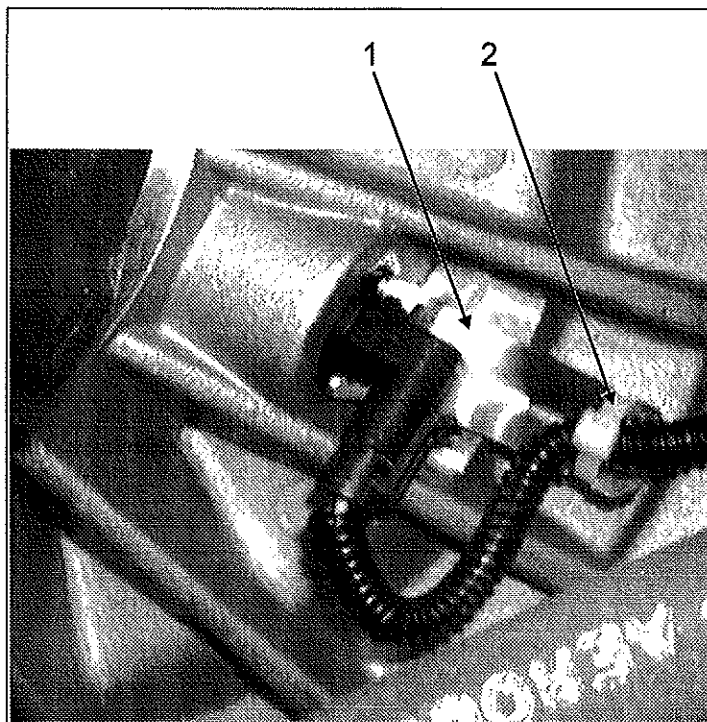
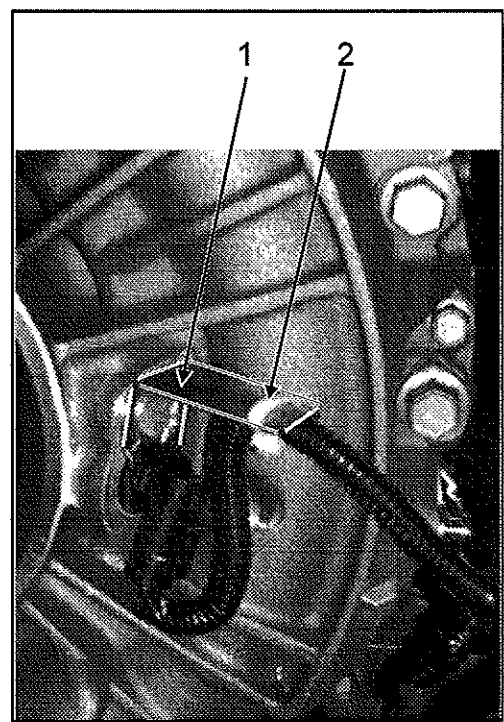

FIG. 1 - WITHOUT A RETARDER
FIG. 2 - WITH A RETARDER
3. Locate the output speed sensor mounted on the transmission rear end, remove bolt retaining output speed sensor bracket, position bracket (1) over output speed sensor bracket (refer to **Figure 2** for transmission provided with a retarder and to **Figure 1** for transmission without a retarder) then reinstall bolt. Attach output speed sensor harness to new bracket (1) using a cable tie (2).